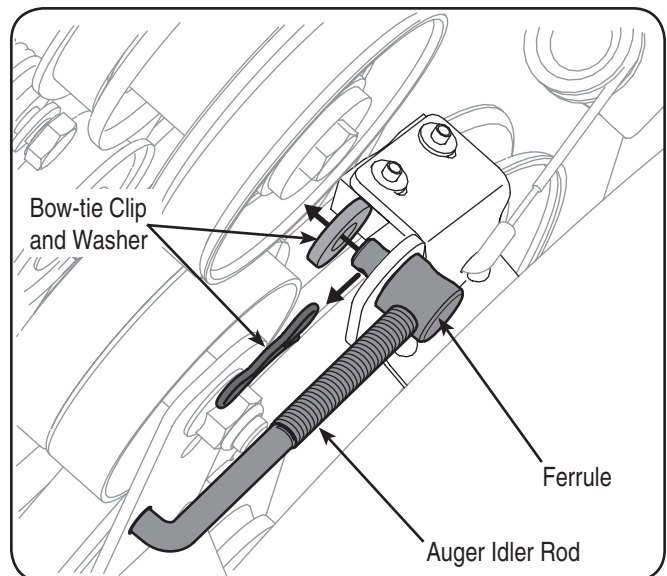

Figure 7-4
1. Remove the bow-tie clip and flat washer from the ferrule in order to disconnect the auger idler rod from the brake bracket assembly. See Figure 7-4.